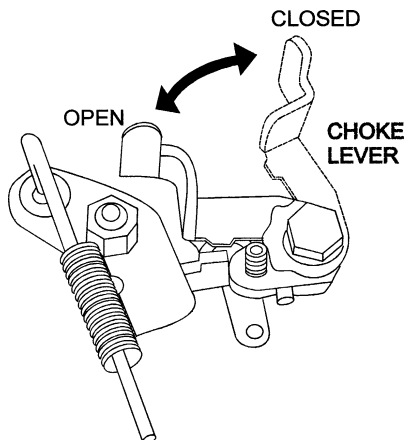

Figure 10. Choke Lever (Closed)
- In cold weather, start the unit with choke lever "Fully Closed" (Figure 10). In warm weather or when the engine is warm, the unit can be started with choke halfway or completely open.
- If engine fails to start, move the choke lever (Figure 10) to the half open position to avoid flooding.